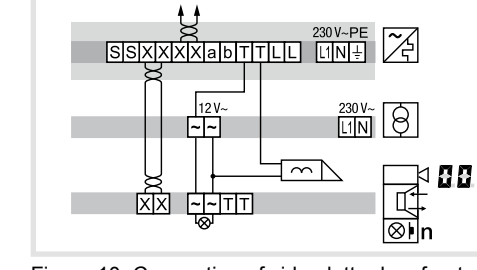

Figure 10: Connection of video letter box front with manipulation-protected door release
- For manipulation-protected installation, connect the door release to the contact □ of the line power supply (Figure 10).